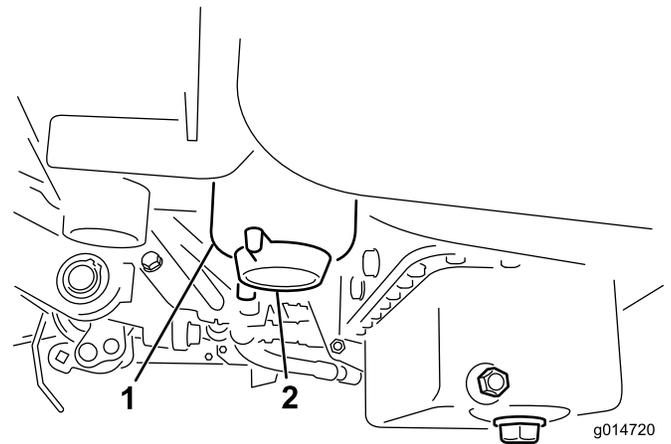

Figure 48
2. Clean the area where the filter canister mounts (Figure 48).
4. Open the filter drain plug (Figure 48).